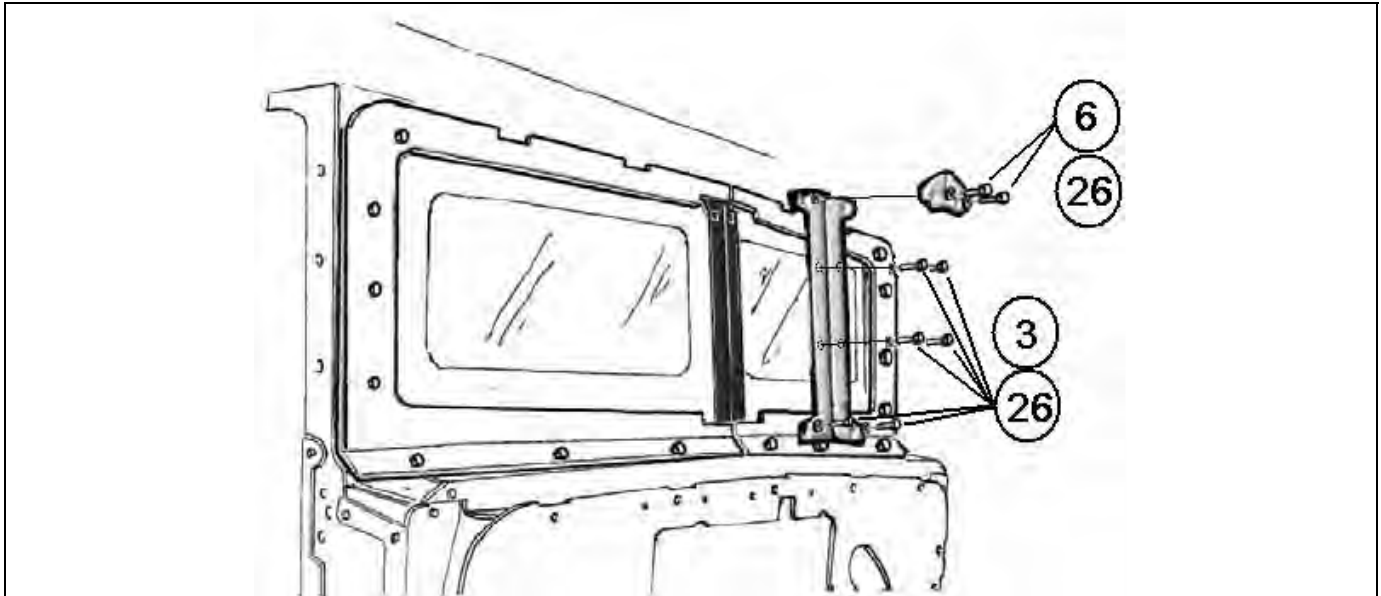

Figure 5-86. Windscreen Kit Installation (7 of 7).
8. Install the center overlaps #782 and #704 per Figure 5-86.